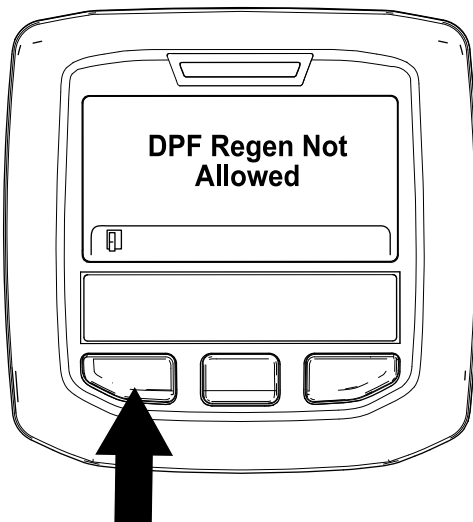

Figure 37
- If the regeneration process is not allowed by the engine computer, the "DPF Regen Not Allowed" message displays in the InfoCenter (Figure 37). Press the left button to exit to the home screen